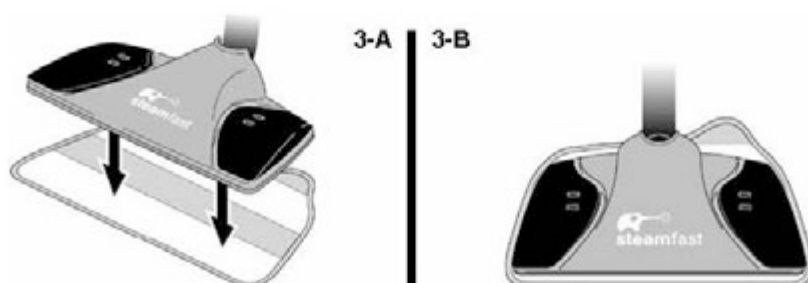

FIGURE 3
2. Align Mop Head above Microfiber Pad. Make sure Mop Head is oriented with Pad as shown, and centered as best as possible (FIGURE 3-A).
3. Press Mop Head firmly down onto Microfiber Pad. Fastener strips will adhere to pad grips on underside of Mop Head. Pad should now be attached and ready for use (FIGURE 3-B).